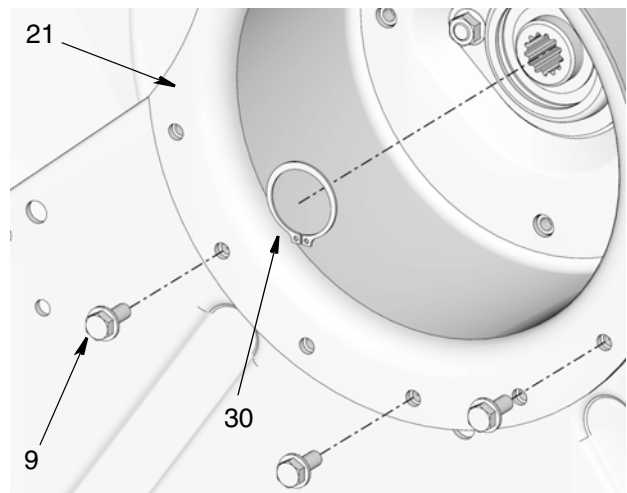

FIG. 17
- a. Remove snap ring (30), bolts (9) and motor mount bracket (21) (FIG. 17).